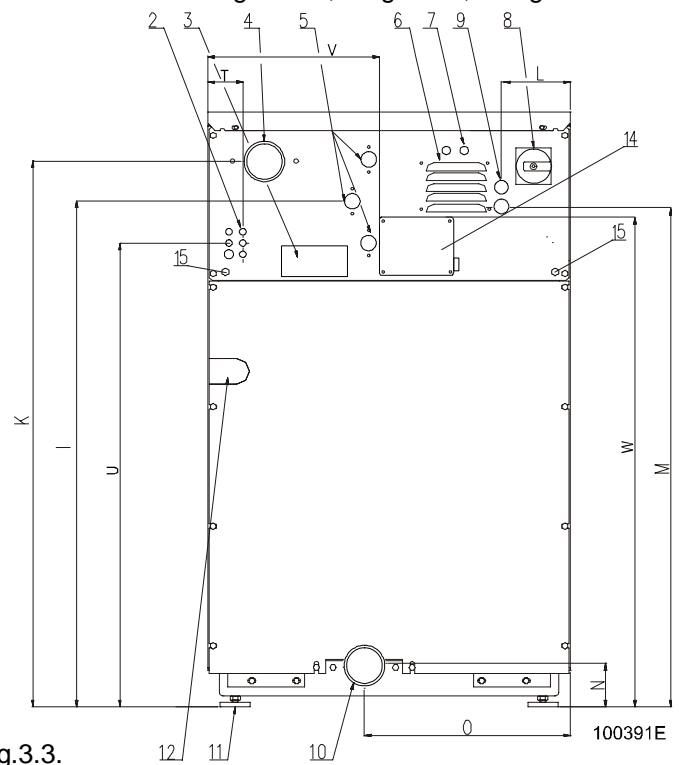

Fig.3.3.
- At final position, leave clearance around the machine like indicated in fig.3.3., for running conditions and maintenance access.
Position the machine only on his 4 adjustable rubber feet. The rubber feet are screwed on the bottom of the machine frame and are adjustable with a wrench size 13 mm / 0.5" and 17 mm / 0.7". Check the position of the top of the machine by a water level and adjust machine feet, fig.3.3., pos.11. Adjust the four rubber feet until the machine is leveled in such a way that they push equally on the floor. Once adjusted, tighten the nut M10 back to the bottom of the frame as counter nut.
The machine has been designed for connecting to the electrical network according the specification of your order. Before connection check the electrical data stated on the data plate (fig.3.3., pos.3), if they correspond to your electrical network. An individual branch circuit needs to be used for each machine. The way of the connection is described in fig.4.4.A. For electrical protection, there must be installed a residual current device (RCD) and a circuit breaker in the electrical installation of the building (laundry switchboard). For correct selection see below.